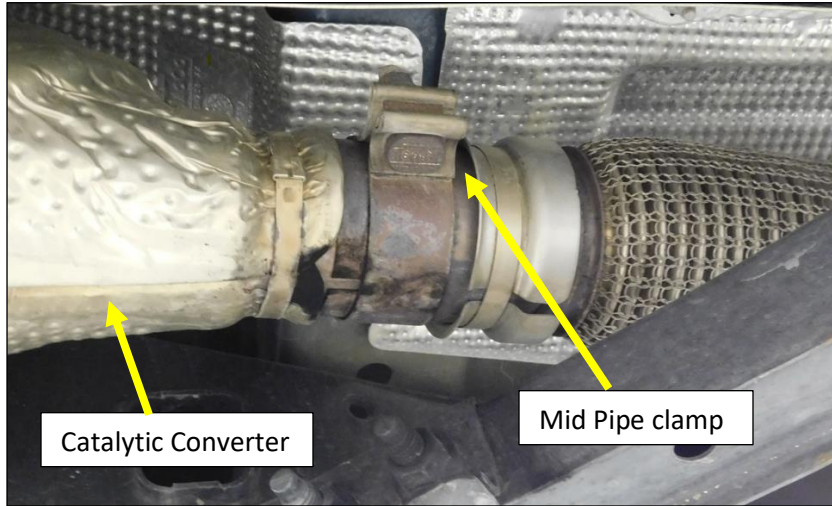

Figure 2
7. Loosen the 15mm nut on the clamp on the mid-pipe at the catalytic converter outlet. **Fig. 2**